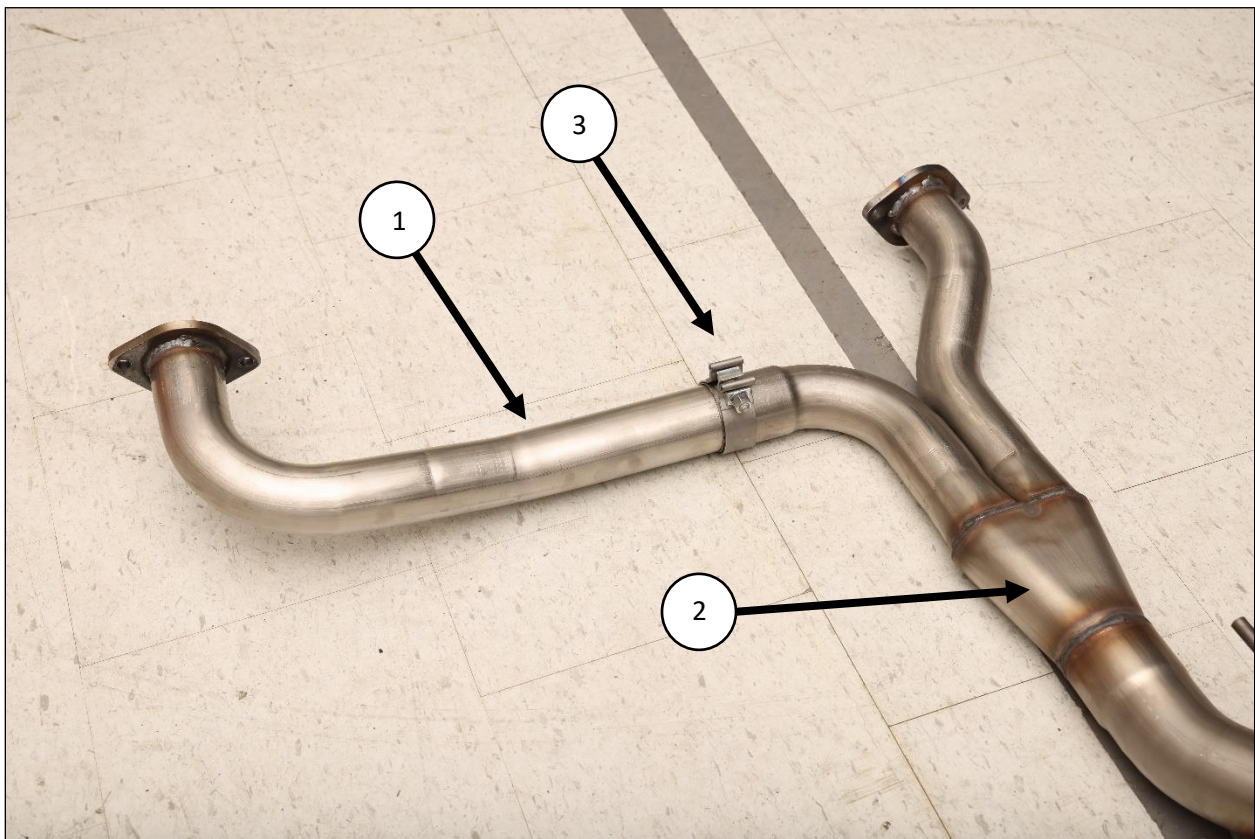

Figure 3
2. Install a 2.5" band clamp **(3)** on to the expanded end of the left front inlet pipe **(1)**. **Fig.3**
3. Install the left front inlet pipe **(1)** into the expanded end of the muffler assembly inlet pipe **(2)**. **Fig.3**